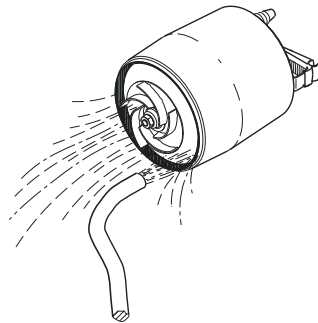

Fig. 12 How to flush the pump
6. Clean the impeller. See fig. 12.